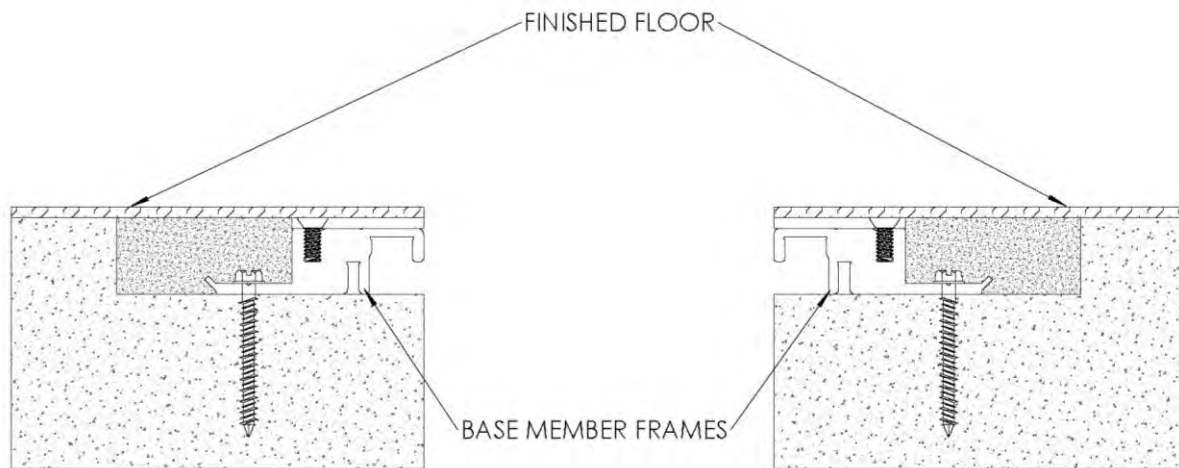

FIGURE 3
3. Finish floor can be installed after grout has cured. **See Figure 3**